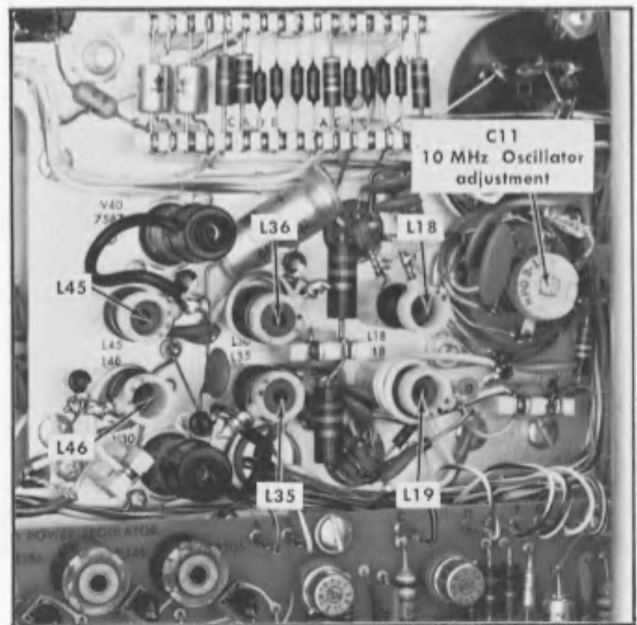

Fig. 6-7. 10 MHz (.1 μ s) 50 MHz (20 ns) and 100 MHz (10 ns) oscillator and multiplier adjustments. Step 4, 10.
- c. Adjust L18 (Fig. 6-7) midway between the two signal maximum amplitude points.
- d. Change the A Time/Cm switch to .5 μSEC position and adjust L19 (Fig. 6-7) for marker amplitude and uniformity.